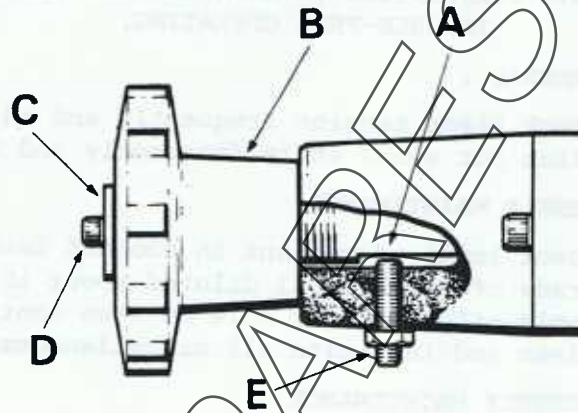

Fig.10.
1. Raise head and close 'Feed Speed' control valve. Turn control knob 'B' (see Fig.10) anti-clockwise until it is against retaining washer 'C'.
5. Re-check head weight as before. If it is now correct, screw in set screw 'E' making sure it just locates into keyway in shaft (see Fig.10) and lock in place.